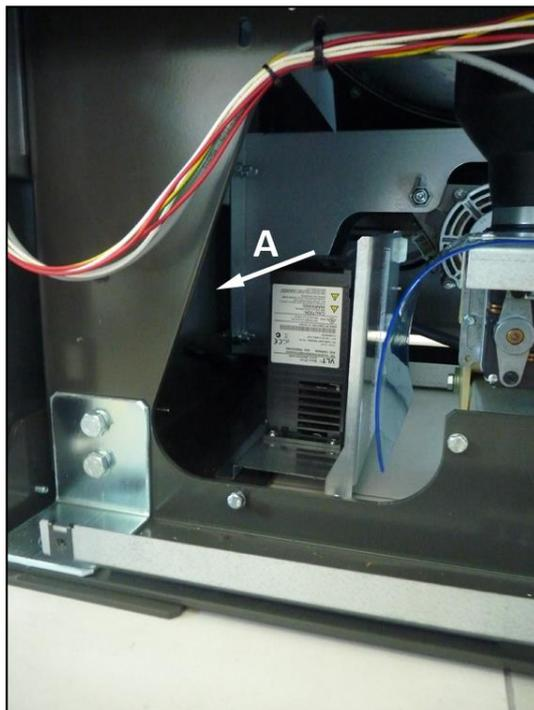

Fig. 3.34
5. Extract the assembly by moving it in the direction indicated as **A**. (Fig. 3.34).